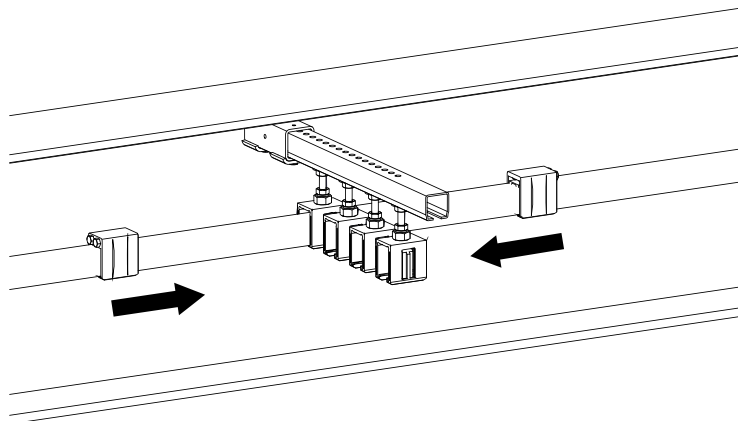

Fig. 87: Slide anchor clamps 0813 onto the conductor rail
- Slide the anchor clamps onto the clipped-in conductor rail section on the right and left (see Fig. 87). When sliding on the anchor clamps, ensure that the two side screws on the anchor clamps point away from the hanger clamp.